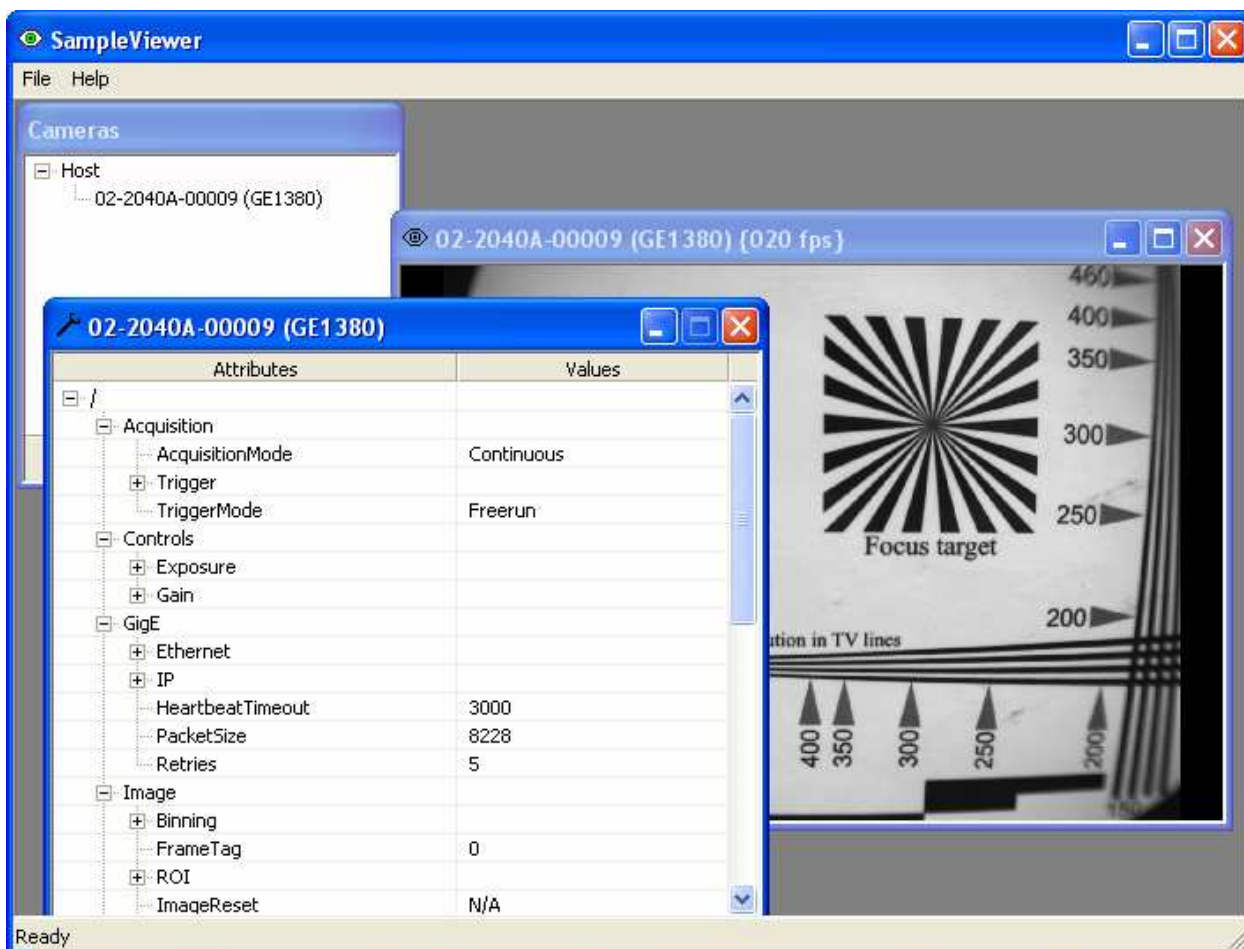

Figure 8. GigE Viewer application window.
- See Figure 8. Select the **wrench** icon to change camera settings. Change the PacketSize to a value of 1500. Select the **eye** icon to image. The camera should now be imaging. If the camera is not imaging, see the Trouble Shooting section of this document. Note that the PacketSize can be set to 8228 if the network card has been optimized to support jumbo frames.